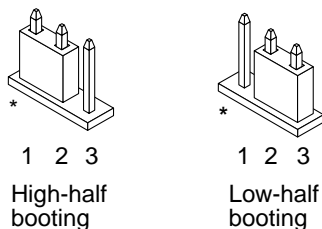
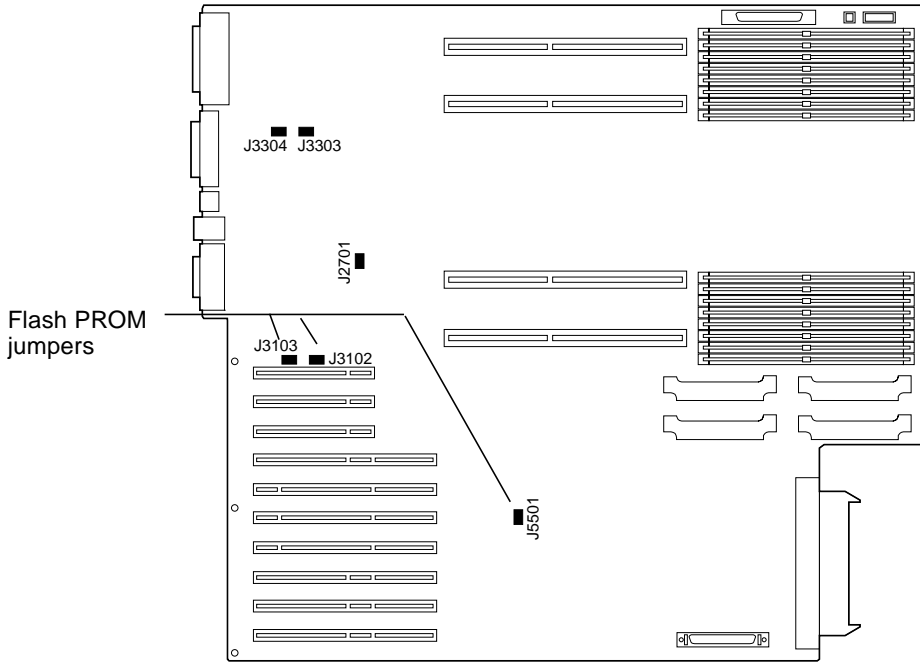

FIGURE 4-7 Setting the Boot Control Jumper to Low-Half Booting or High-Half Booting
FIGURE 4-8 Flash PROM Jumpers on the Sun Enterprise 450 System and the Sun Ultra 450 Workstation
- 2. If output cannot be found on any of the installed frame buffers or serial port A, set the boot control jumper to boot from the half of the PROM that is not currently selected. See FIGURE 4-1 FIGURE 4-2, FIGURE 4-3, FIGURE 4-7, and FIGURE 4-8. An asterisk (*) on the main logic board notes the location of pin 1.**
- If the jumper is set for high-half booting, move it to low-half booting (pins 2 and 3 jumpered). See FIGURE 4-7.
- If the jumper is set for low-half booting, move it to high-half booting (pins 1 and 2 jumpered). See FIGURE 4-7.
Three jumpers on the main logic board affect flash PROM operation. FIGURE 4-8 shows the jumper locations, and TABLE 4-6 describes their functions.